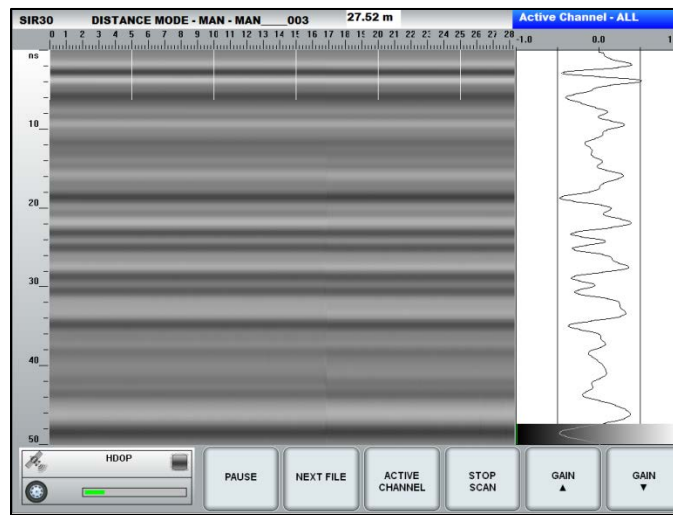

Figure 77: Tick per Unit = Five, Ticks per Major Tick = Five.
display. Other ratio's of Scans per Unit, Ticks per Unit and Tick per Major Tick may be more (or less) useful. In the example below we have set the Scans per Meter to 100, the Ticks per Unit to five (5) and the Ticks per Major tick to five (5) which results in the distance scale in Figure 77 below.